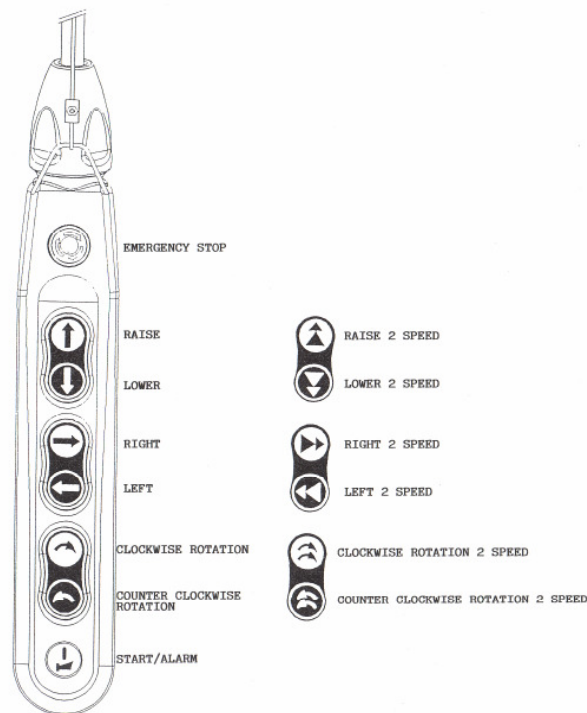

fig.2
§ These movements are activated by means of the following buttons of the push-button panel (fig.2):
6. **Emergency stop button**, fixed on the push button panel, has mushroom form of red colour, it starts the stop functions when completely pushed. It stops all the movements (fig.2).